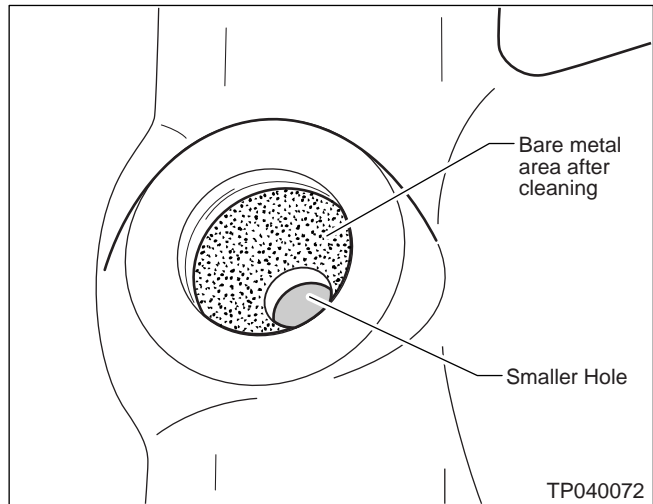

Figure 4
4. Clean deposits out of the EGR ports (see Figure 4).